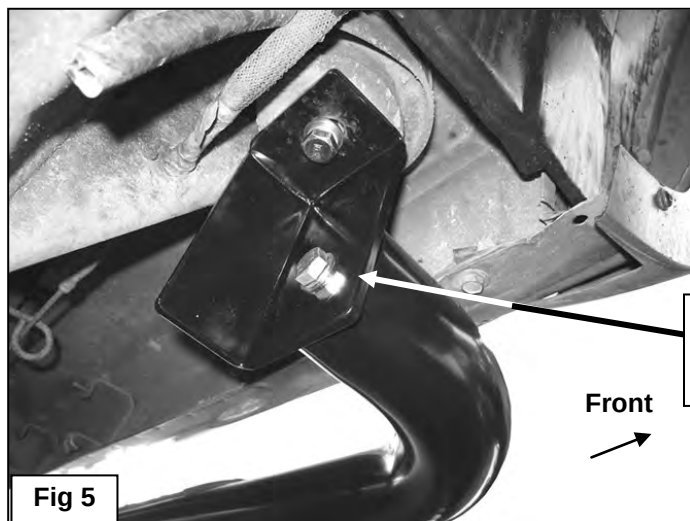

Fig 5
6. Next, select the driver Sidebar. Attach the Sidebar to the Mounting Brackets with the included (2) Larger 1/2" x 2" Hex Bolts, (2) 1/2" Lock Washers and (2) 1/2" Flat Washers, (**Figure 5 & 6**). Do not tighten at this time.